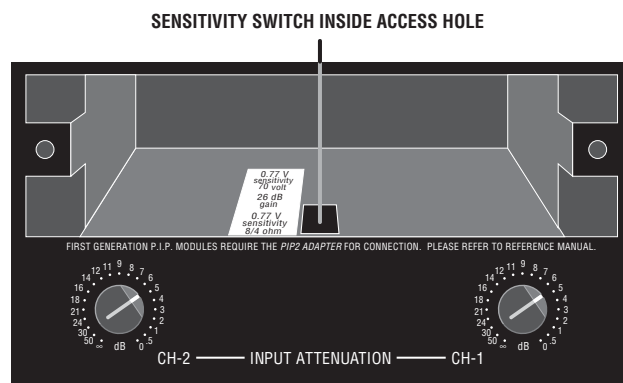

Fig. 4.3 Input Sensitivity Switch
3. Locate the access hole for the Input Sensitivity switch inside the chassis opening (Figure 4.3).